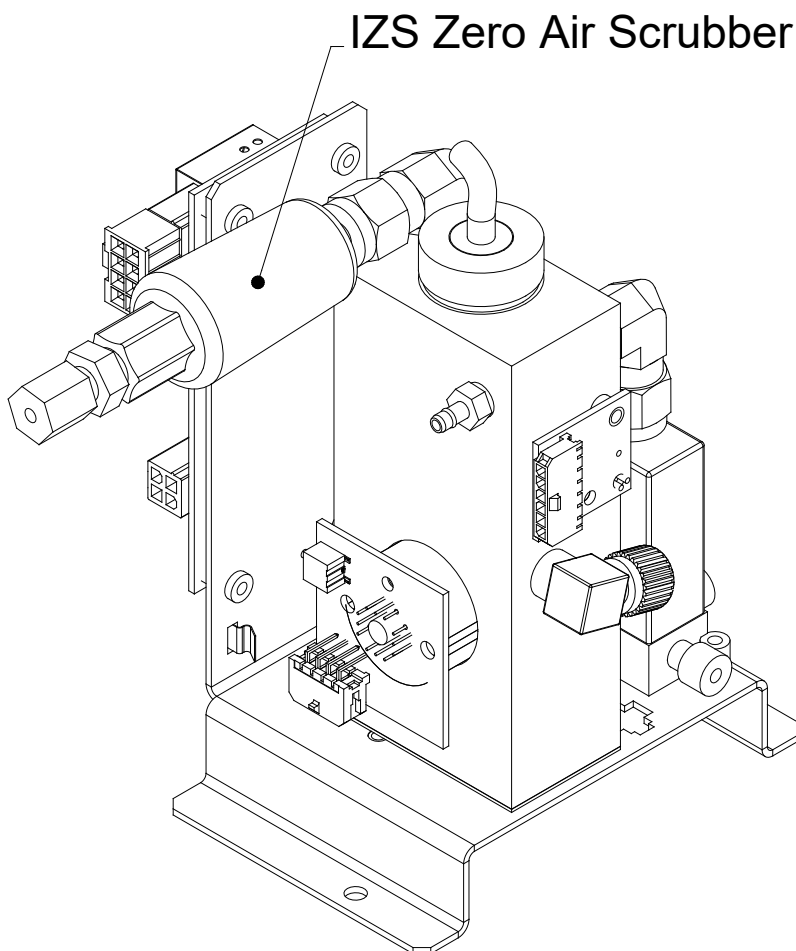

Figure 10-2 Replacing the IZS Zero Air Scrubber
3. Disconnect the white nylon $\frac{1}{4}$ "- $\frac{1}{8}$ " fitting from the Zero Air Scrubber (See Figure 10-2).